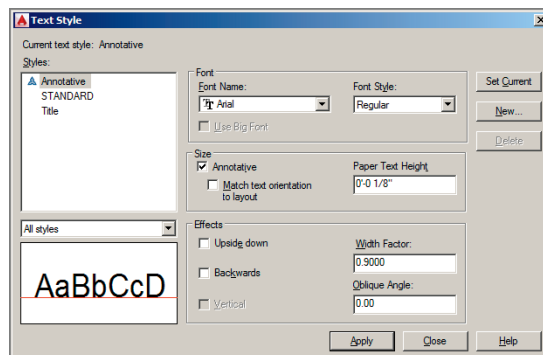

FIGURE 13.1 Creating an annotative text style
2. Select Arial as the font name, select Annotative in the Size area, type **1/8”** (or **0.4 cm**) for Paper Text Height, and type **0.9** for the Width Factor (see Figure 13.1). Click Apply, and then click Close.